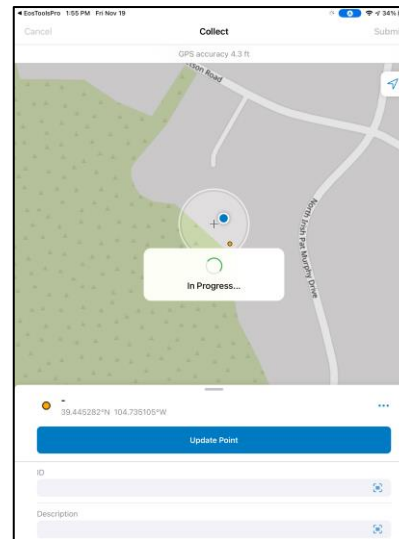

Figure 18
18. The updates will be sent to the app (Figure 18)